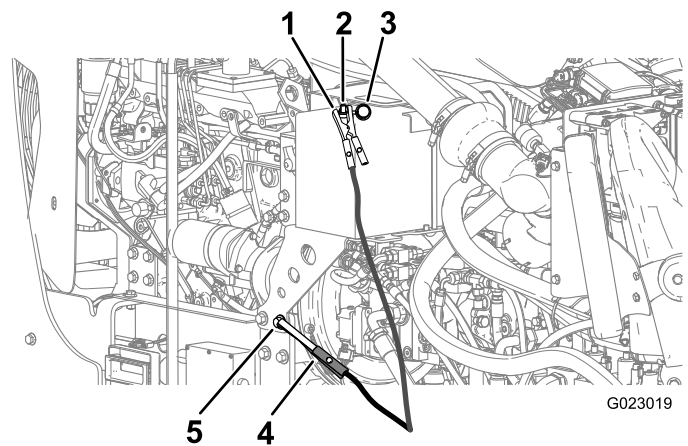

Figure 132
- Remove the cover from the jump post (Figure 132).
- Connect the positive (+) jumper cable to the jump post (Figure 132).
- Connect the negative (-) jumper cable to a ground point, such as an unpainted bolt or chassis member (Figure 132).
- When the engine starts, have the other person disconnect the negative (-) jumper cable from the frame and then disconnect the positive (+) jumper cable (Figure 132).